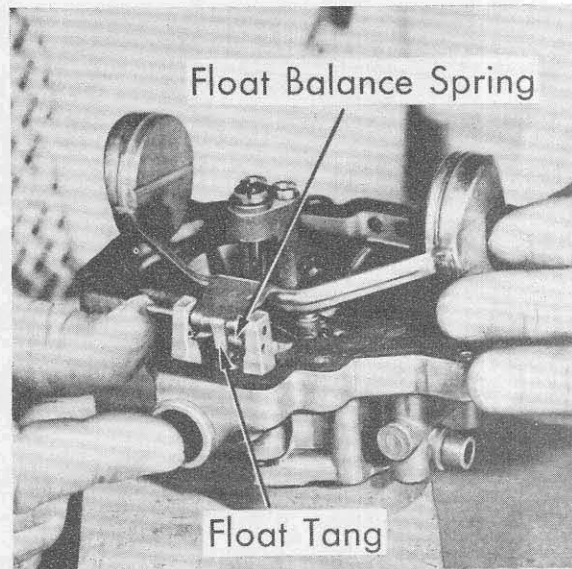

Figure 10
8. Install float balance spring and clips. Place float carefully in position with tang at rear of float facing air horn. Install float hinge pin. (Figure 10)